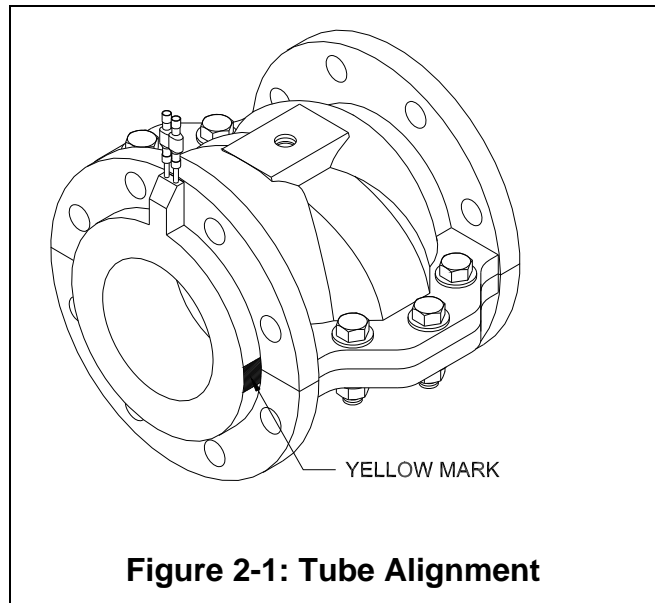

Figure 2-1: Tube Alignment
- 1) Yellow marks on outside flange of the elastomer tube line up within 5 degrees of the valve body split (see figure 2-1).
1. Make sure that the tube is properly aligned with the valve body, Figure 2.1. Mount “open flanges” to both sides of valve so that tube flanges can form a seal against the valve body, effectively forming a sealed pressure vessel. Torque to specifications Section 2.2, Table 1.